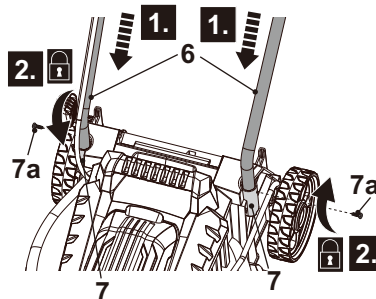

Fig. 1
2. Remove two screws (7a) from the handle supports (7) using the suitable cross-head driver (not delivered) and keep them handy.
3. Insert the lower handle bars (6) into the handle supports (7). Align the mounting holes of the lower handle bars (6) and the handle supports (7) (Fig. 1, step 1).
4. Secure the lower handle bars (6) with the screws (7a) using the suitable cross-head driver (not delivered) (Fig. 1, step 2).